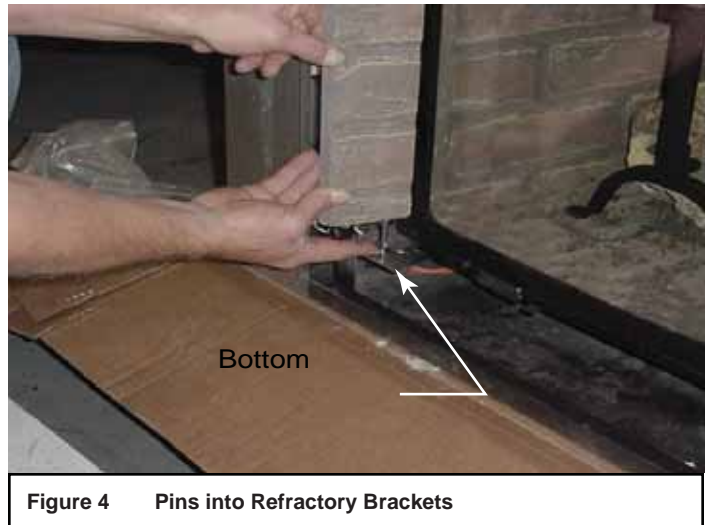

Figure 4 Pins into Refractory Brackets
- Lift up on side refractory, compress spring, remove lower pin from bottom refractory bracket and set refractory aside. See Figure 4.